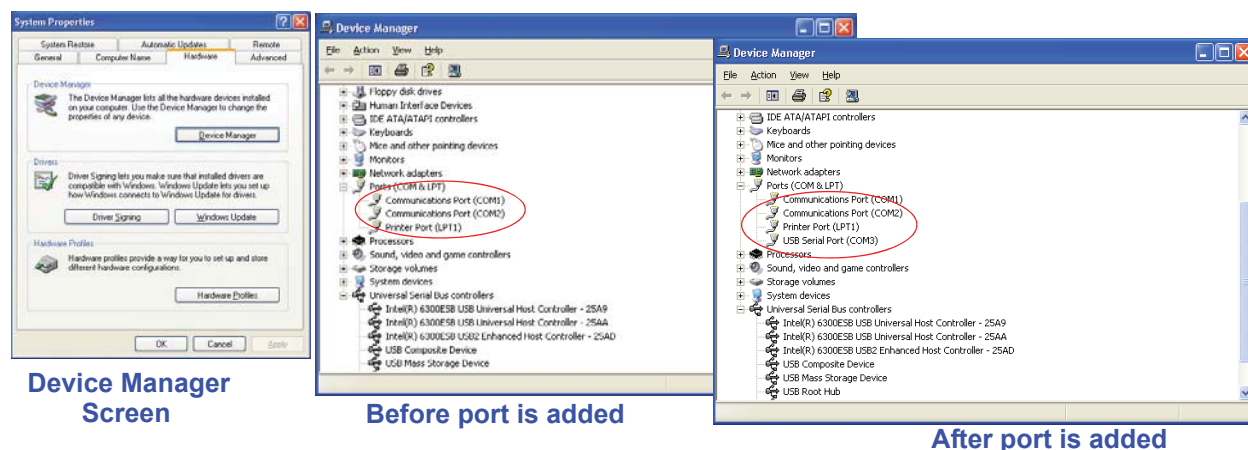

Figure 7-3 Example Device Manager Screens
6. Identify the computer port that has been added to the PC by using the “Properties” of My Computer and examining the COM ports. USB ports are generally added to the bottom of the list and named USB COM port 'x'. Refer to Figure 7-3 for screen examples (Windows XP).